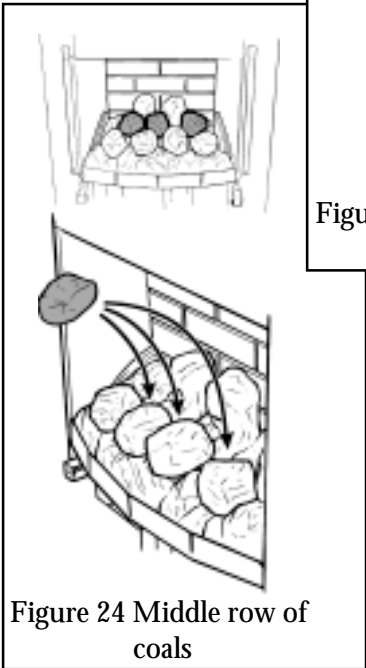

Figure 24 Middle row of coals
10.5.3 Place the three remaining coals behind and approximately midway between each of the coals in the front row (See figure 24).